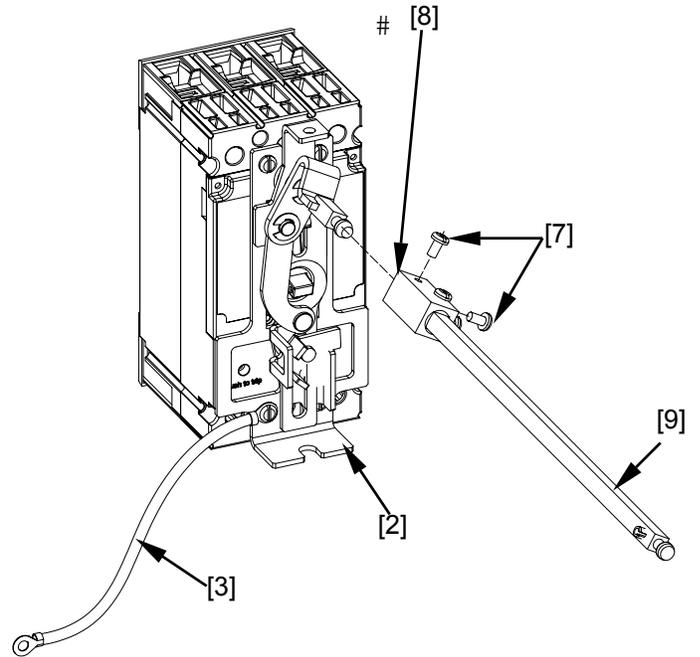

Figure 7. Installing the extension shaft and coupler assembly.
- d. Place the shaft [9] assembled with coupler [8] on to the crank of the base-crank assembly [2] and secure with two #8-32 x 0.312" screws [7], as illustrated in Figure 7. Tighten the screws to 16 - 20 in-lb.